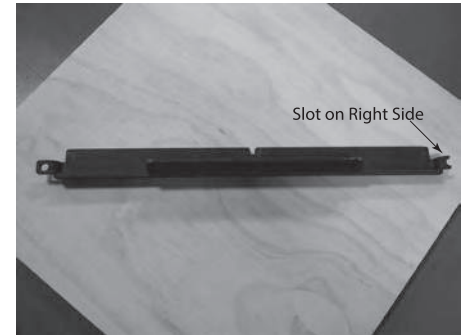

Figure 2
2. Install by inserting the left side up and in first, so that the right side will fit up and set the slot around the pin. **See Figure 2.** Set the left side down so that the pin goes thru the hole.